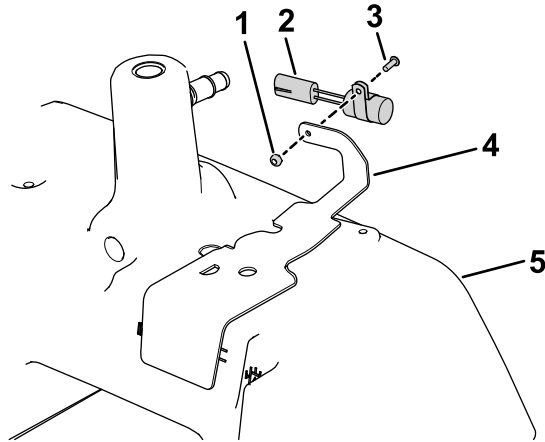

Figure 5
- Use the screw (5/8 inch) and locknut to install the delay timer on the oil-level cover (diesel model only); refer to Figure 5.
- Set the oil-level cover in place, but do not secure it to the main hydraulic tank yet (Figure 5).
- Install the oil-level cover and solenoid-valve assembly to the main hydraulic tank with 2 hex-head bolts and the shield bracket (Figure 5).